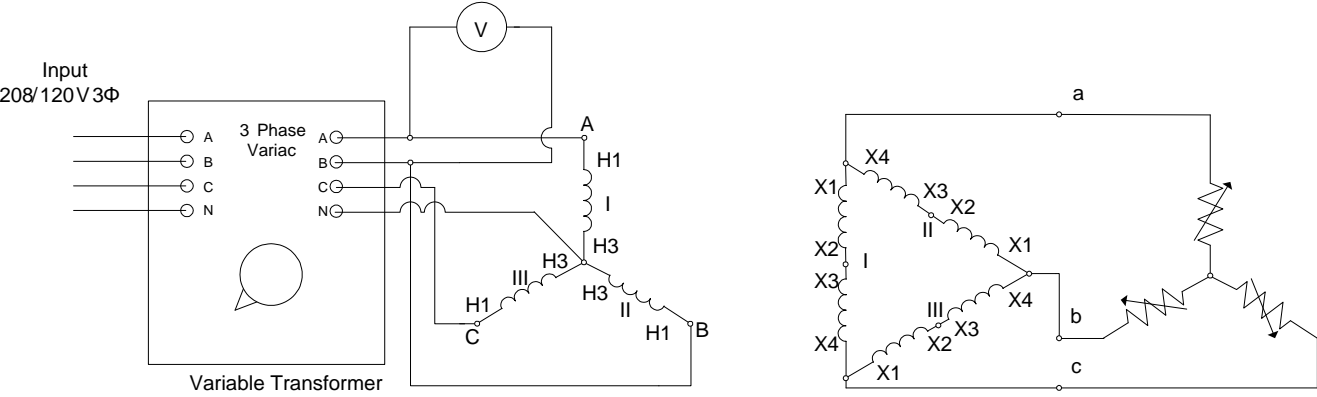

Figure 3- Wye-Delta Connection
4. Connect the three, single-phase transformers as shown in Figure 3. **Have the Instructor check your circuit.**